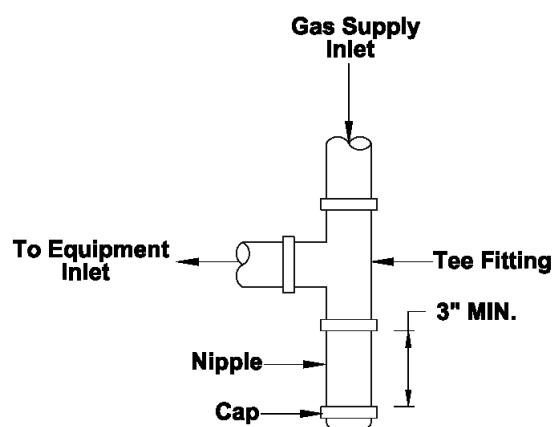

Figure 26 - Sediment Trap (Typical)
- NFPA** Code and Hearthstone require the use of a dedicated sediment trap just upstream of the unit. Damage to the valve, or other components due to the lack of a sediment trap are not covered by warranty (see figure 26).